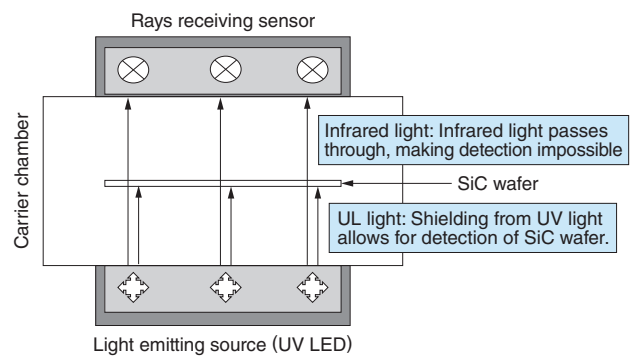

Fig. 7 Image of SiC Wafer Detection Using Ultraviolet Ray
To meet these demands, we have been working on SiC wafer compatibility for over 10 years, and we still receive many inquiries. While infrared and visible light are commonly used as light sources for wafer detection, they cannot be used for SiC wafers because they penetrate through the material, preventing accurate detection. To address this, we developed and implemented a solution using ultraviolet (UV) light, which does not penetrate SiC. This allowed us to achieve SiC wafer compatibility without significantly altering the wafer detection mechanism of the equipment. Fig. 7 shows an image of SiC wafer detection using UV light.